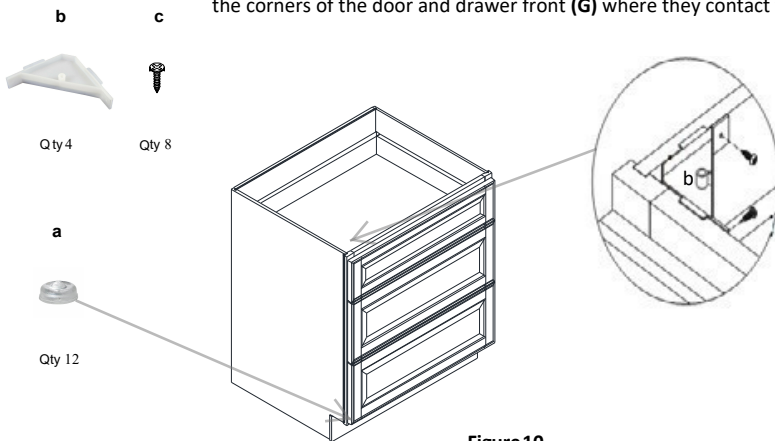

Figure 10
7. Installing the Corner Braces (Figure 10) and inserting the Drawer: Place the corner braces (b) on each top corner of the cabinet and secure them with the 1/2" Corner Brace Screws (c). Slide the drawer into the rails and check the drawer position. Install the rubber bumpers (a) onto the corners of the door and drawer front (G) where they contact the frame.